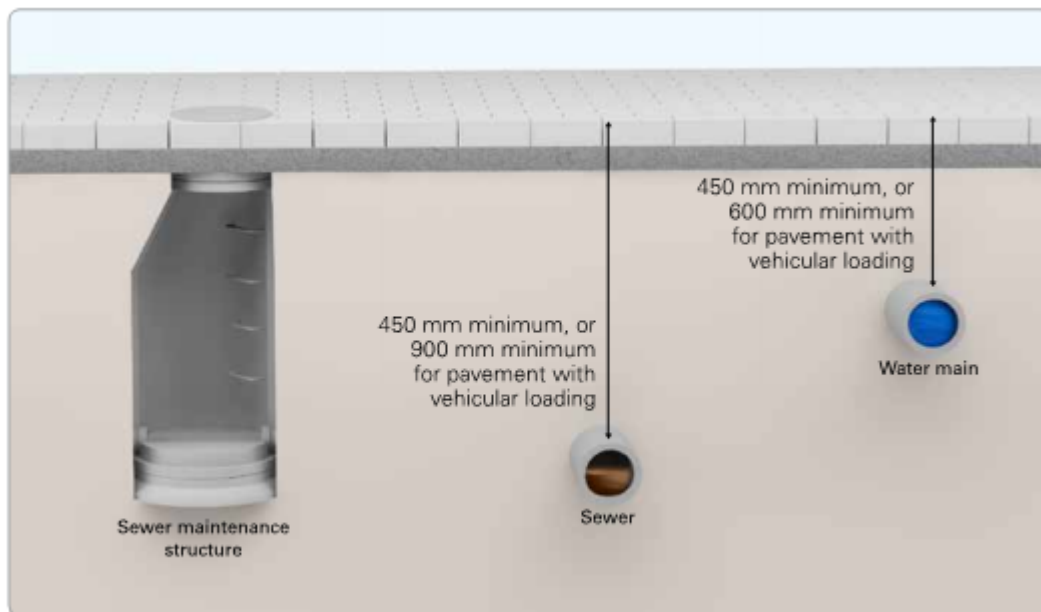

Figure 7-7 Diagram 4 SWC BOA Pipe Assets
- The new sewer to be designed by others, is currently proposed at depths of between 1.8-2.1m below the existing ground with cover levels exceeding the 900mm minimum in accordance with Figure 7-7. Refer to cross sections Appendix A.